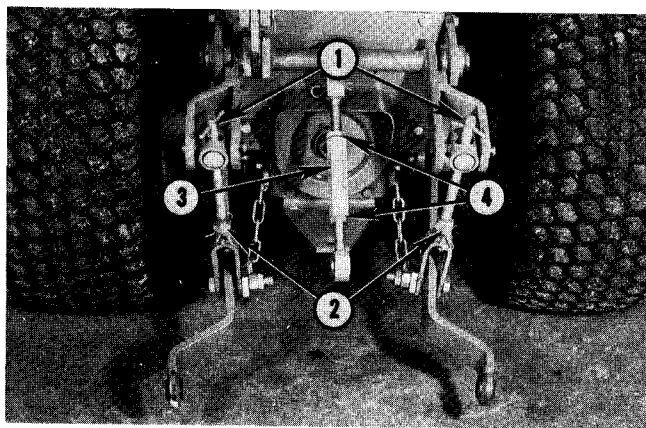

Fig. 60 — 3-Point Hitch
4. Back Tractor up to within a few inches of mower, shut off engine and lower Tractor 3-point hitch lift arms, Fig. 60.
NOTE: If after installing first lift arm the other is not level with its pin remove hair pins in adjustable lift links and screw up or down as necessary by turning "T" handles, Fig. 60.